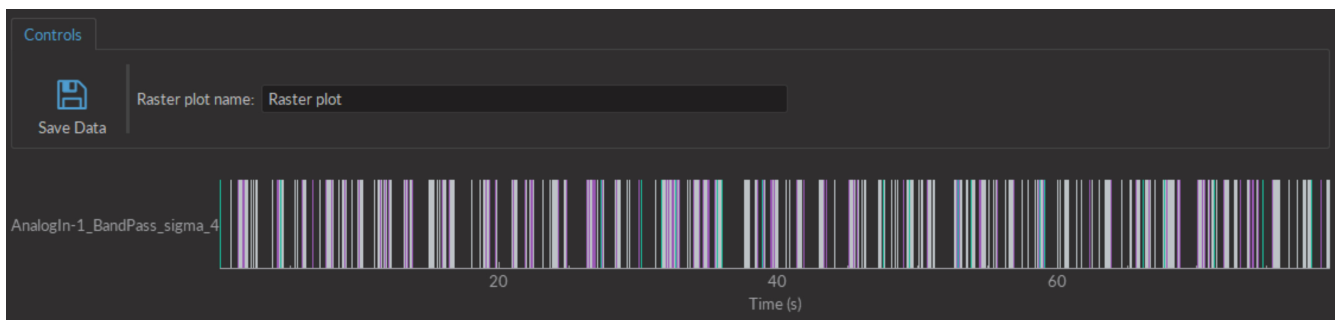

Figure 4.42: Raster Plot Window
- The **Raster Plot** button opens the **Raster plot window** (Fig. 4.42). The window displays the raster plot of all spikes over time, with each color corresponding to a single cluster. This window can be kept active over multiple uses of the **Spike finder**, with all raster plots displayed within.